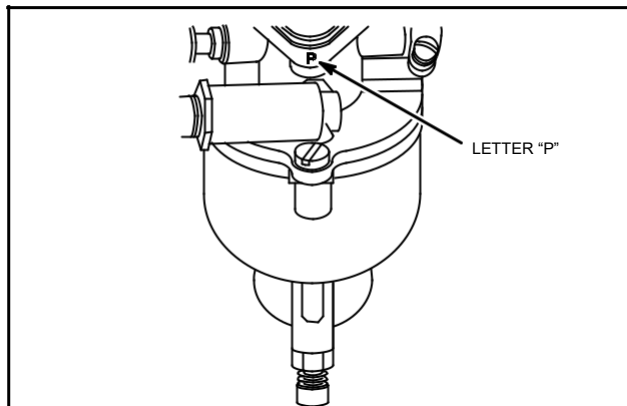

Fig. 277 - FLANGE MARKING, FUEL PUMP
**NOTE:** If engine is equipped with a fuel pump, install repair kit Part #394683, Fig. 277.